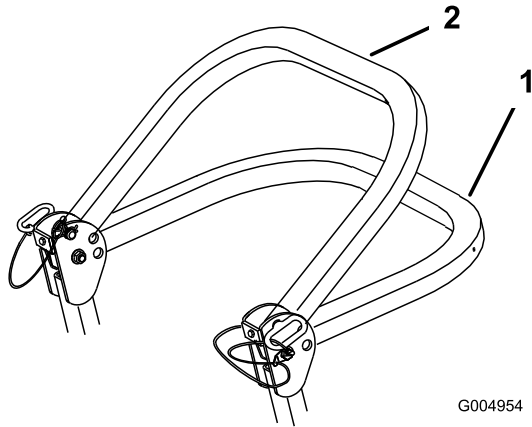

Figure 7
2. Lower the rollbar to the down position. There are two down positions. See Figure 7 for the positions.